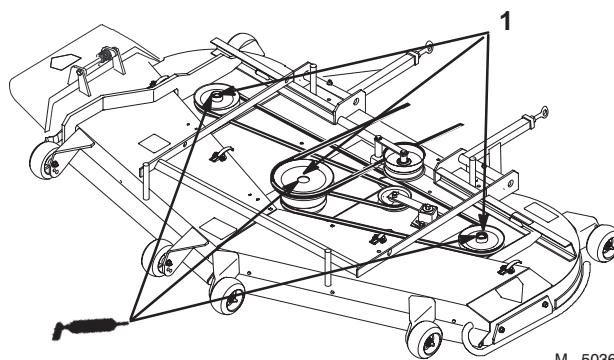

Figure 11
1. Grease the fittings on the three spindle bearings. Grease until it comes out lower seals (Fig. 11).